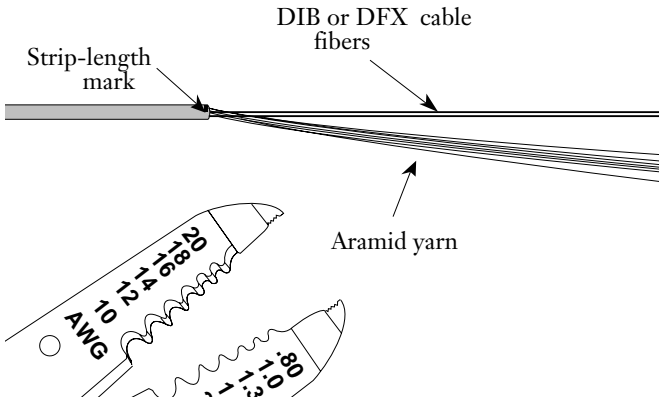

Figure 3
5.3 Use the buffer tube stripping tool to remove the outer jacket of the DIB or DFX cable at the marked strip point (Figure 3). Use care to avoid damaging the fibers.